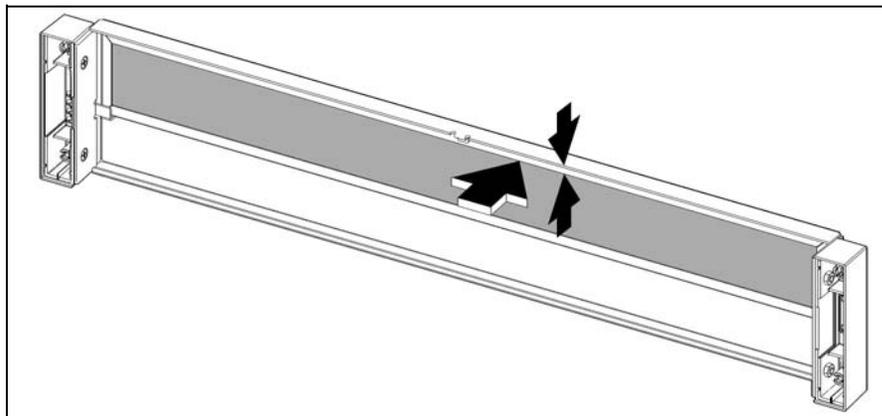

Figure 5.41 - Air Filter Removal
4. As indicated by the large arrow in **Figure 5.41**, pull the top of the filter frame downward and outward gently to dislodge its laminated external foam pads from the bezel's interior walls.